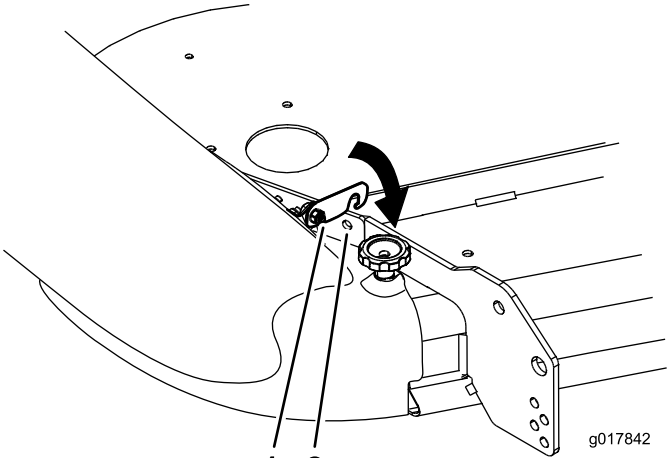

Figure 23
- Rotate the latch until it hooks into the hole in the mower deck stiffener (Figure 23).